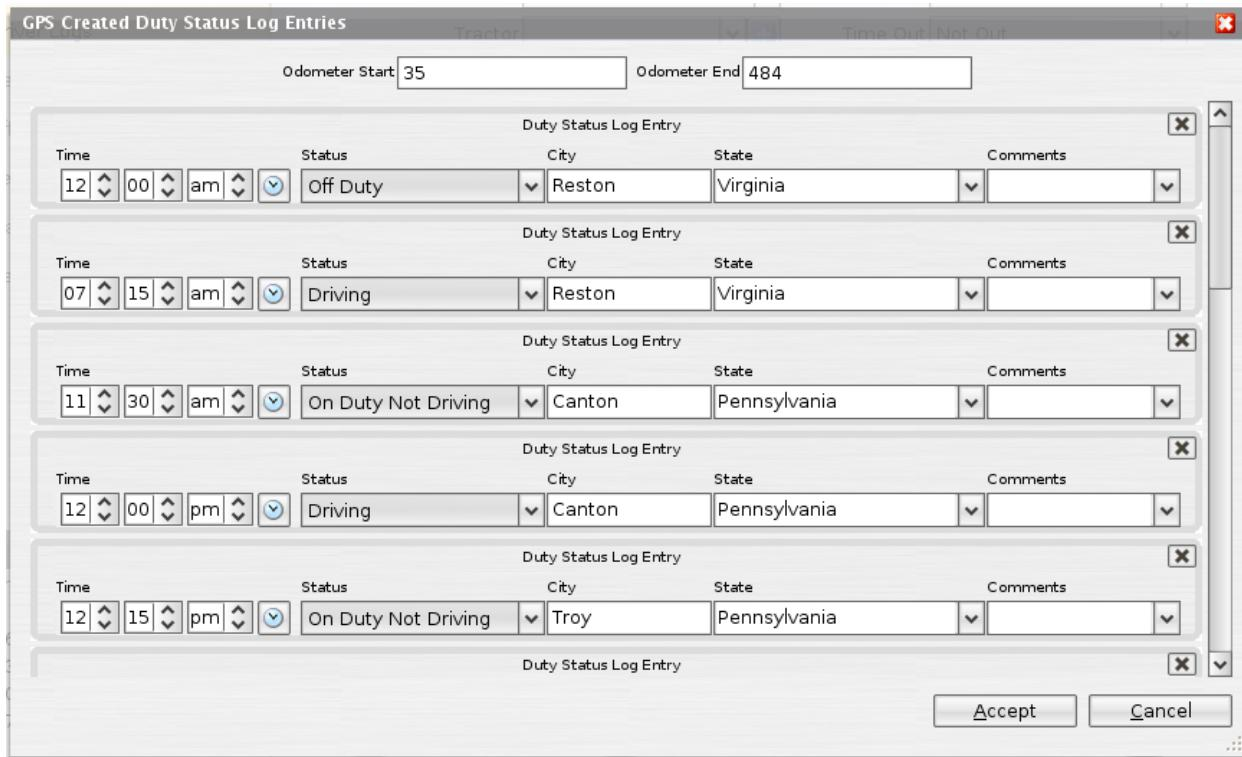

Figure 5.39. GPS Duty Status Dialog
2. Select the log date where GPS positions have been recorded as the commercial vehicle was moved. The GPS button will only be visible when there have been GPS positions stored for the selected log date. If the GPS button is visible click the button and wait for the dialog to appear see Figure 5.39, “GPS Duty Status Dialog”